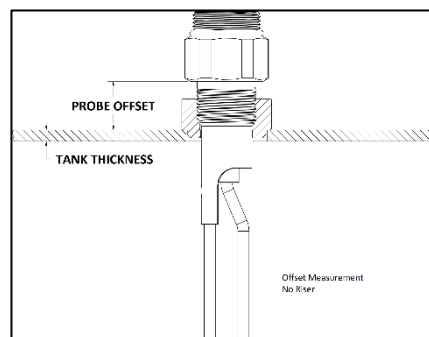

Figure 4-4-2, Probe Offset
- a. After drilling the hole at the location to install the probe and before the installation of the probe, measure the tank thickness with at least 1mm accuracy (see Figure 4-4-2). Record this measurement for later use.
2. If the probe is installed on top of the riser, include the riser height in the Probe Offset distance (see Figure 4-4-2 - Probe Offset with Riser). In this case, the distance is measured from the bottom edge of the probe nut to the outer tank surface (and not the top of the Riser). The SensorLink software requires the manual entries of the probe offset measurement and the tank thickness to calculate the Total Offset to align the probe tank top with the actual tank top.